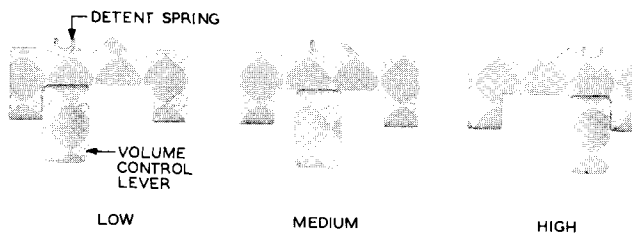

Fig. 3—Position of Ringer Volume Control Spring
3.01 The detent spring of the ringer volume-control assembly should be seated as shown in Fig. 3. The spring normally should not be adjusted in the field.